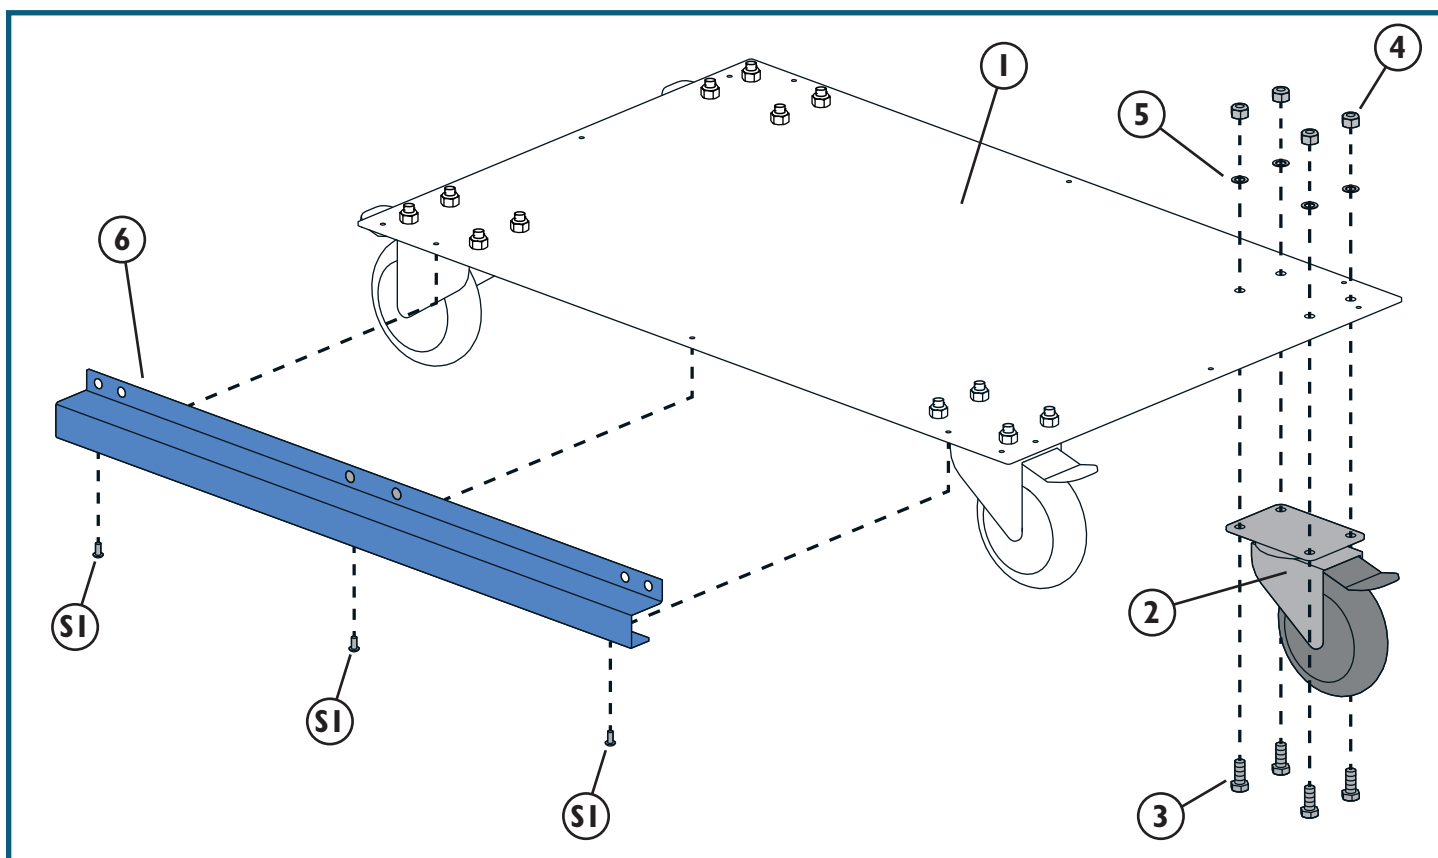

Fig. 1
1. Attach the four Casters (2) to the Cabinet Bottom (1) with four M8 Caster Bolts (3), four Washers (5) and M8 Caster Nuts (4). Fully tighten. **Fig. 1.**
2. Lock down the casters and then attach one of the Front Rails (6) to the front edge of the Cabinet Bottom (1) with three M4 x 3/8" Pan-Head Self-Tapping Screws (S1). **You can tell the front edge of the Cabinet Bottom from the back by noting the number of small mounting holes in the corners; the front corners have three small holes, while the back corners have only two. Fig. 1.**